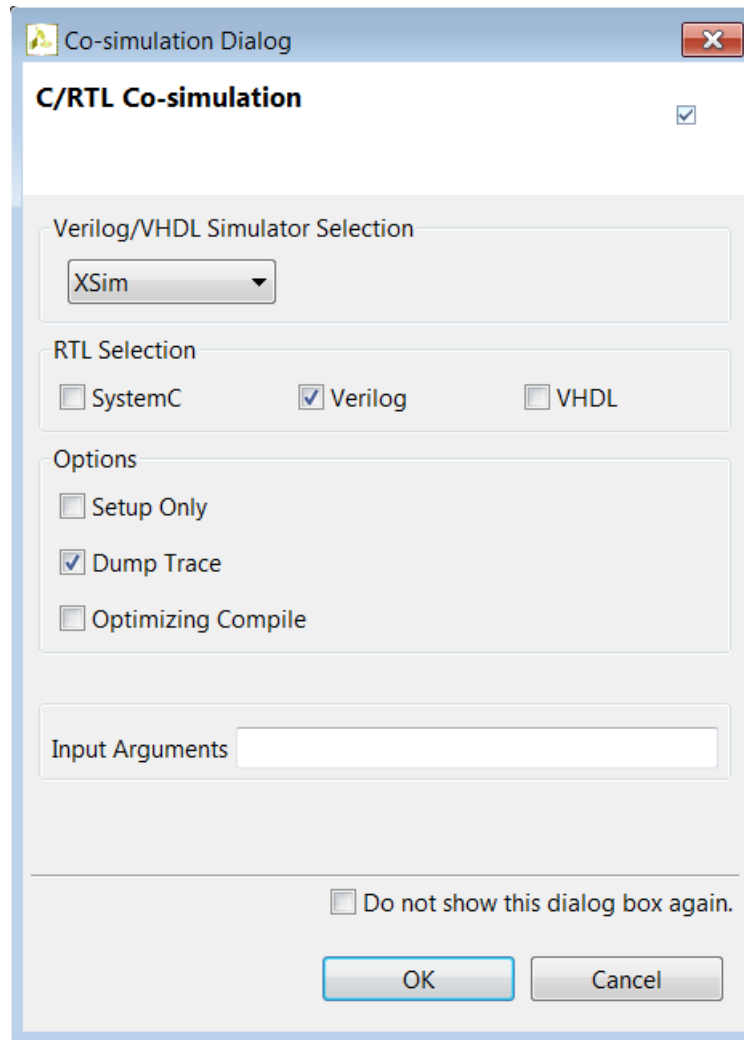

Figure 175: Cosimulation Dialog Box For Lab 2
- Select **Xsim** from the **Verilog/VHDL Simulator Selector** (Figure 175).
- Select the **Dump Trace** option, to have the options shown in Figure 175.